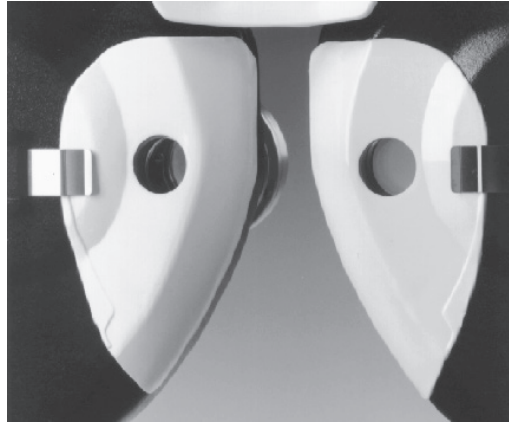

Figure SU-2 Face Shields
1. Each Face Shield is held in place by a Spring Clip. Attach by sliding the edge of the Face Shield under the clip matching the position of the shield aperture to the main aperture of the Phoropter. Refer to Figure SU-2.